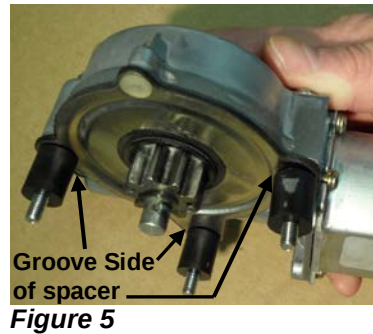

Figure 5
Step 3: Installing the new motor. Insert the three 5/16 hex bolts into the motor mounting holes and put one plastic motor spacer on each bolt on the backside of the motor. The spacer has a groove on one side that will need to be aligned into the motor bolt hole. The motor will have to be installed while keeping the three bolts from falling out of the mounting holes and the three plastic motor spacers from slipping off the end of each bolt. **See Figure 5.**